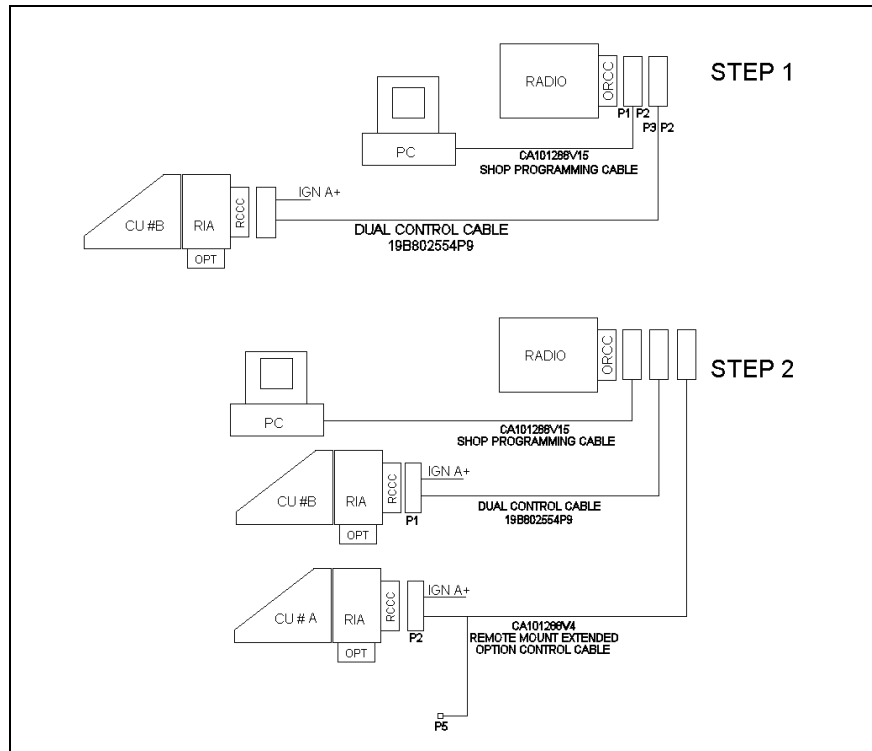

Figure 10-3: M7100^{IP} Dual Control Unit PC Programming Configuration Remote Mount
1. Connect the M7100^{IP} Remote Mount Radio with ProGrammer Assembly, as shown in Figure 10-3, Step 1. Program the radio with the following control configurations:
2. Connect the Remote Mount Radio and the Auxiliary Control Unit together with ProGrammer, as shown in Figure 10-3, Step 2. Program this configuration with the following files: